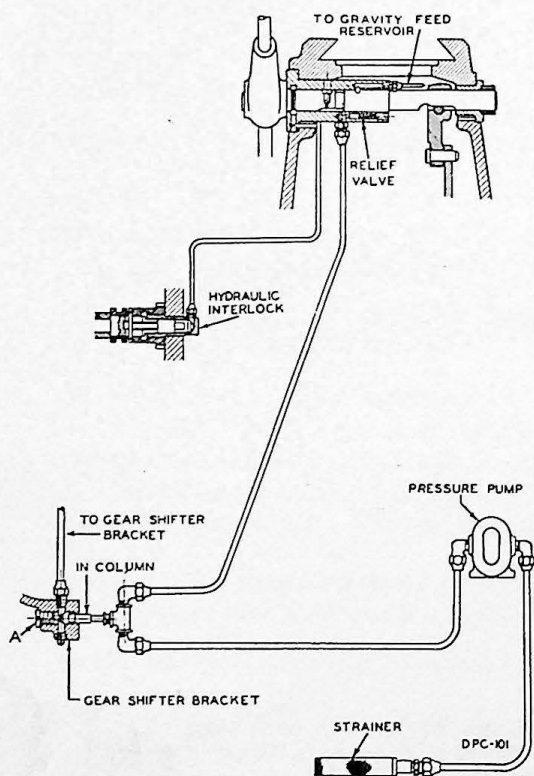

FIGURE 29
1. Remove screw plug "A", Figure 29, at bottom, rear of gear shifter bracket. Put at least a 500 lb. hydraulic gauge in this connection. This is a $\frac{3}{4}$ -16 R. H. tapped hole and requires a special fitting, or drill and tap $\frac{1}{4}$ " pipe thread through plug "A" for gauge.